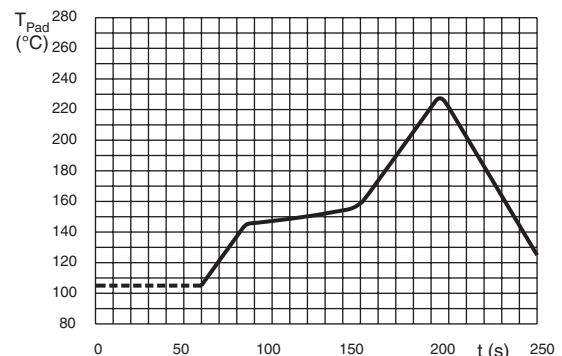

Fig. 4 Maximum temperature load during infrared reflow soldering measured on the soldering pad
- ATTENTION: for maximum safe soldering conditions refer to fig.4
For maximum conditions refer to Fig.4.